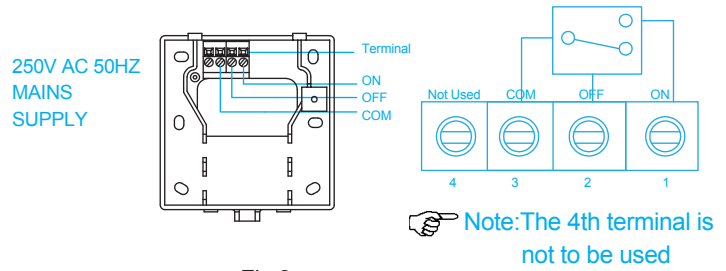

Fig.3
- Carefully remove the plastic terminal cover. Terminate the cables into the terminal block ensuring correct polarity is observed (See Fig. 3 Wiring Diagram). Re-position the plastic terminal cover and screw into place.